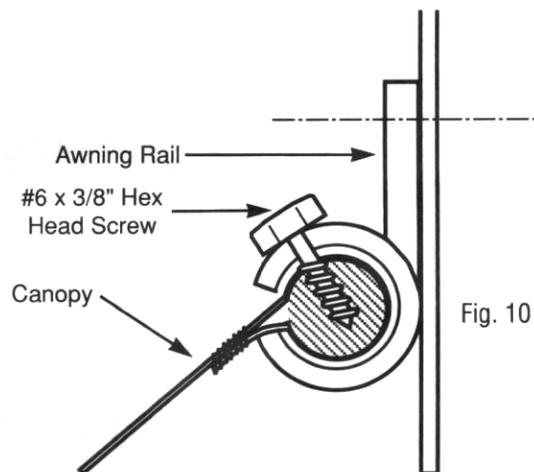

Fig. 10
- To prevent awning from moving in awning rail, drill two 3/32" holes through awning rail, polyrod and canopy approximately 2" from each end of canopy. Secure canopy using a #6 x 3/8" hex head screw in each hole. (See Fig. 10)